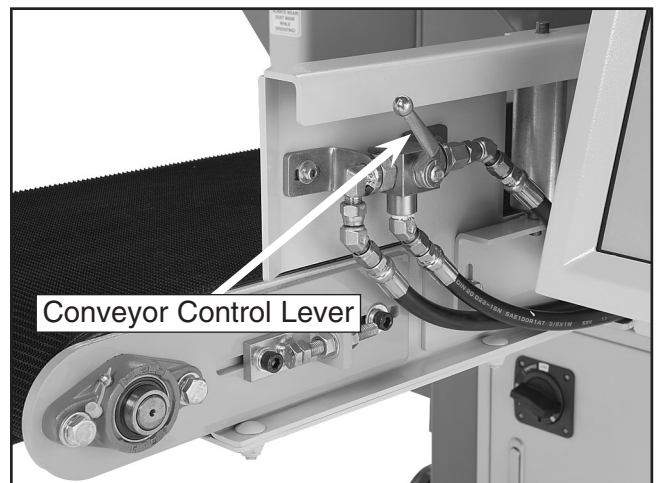

Figure 22. Conveyor controls.
2. With the saw running, push the infeed conveyor engagement lever (**Figure 22**) forward to engage the conveyor belts. Push the lever farther forward to make the conveyors run faster, or pull the lever backwards to make the conveyors run slower. Pull the lever all the way back to stop the conveyors.